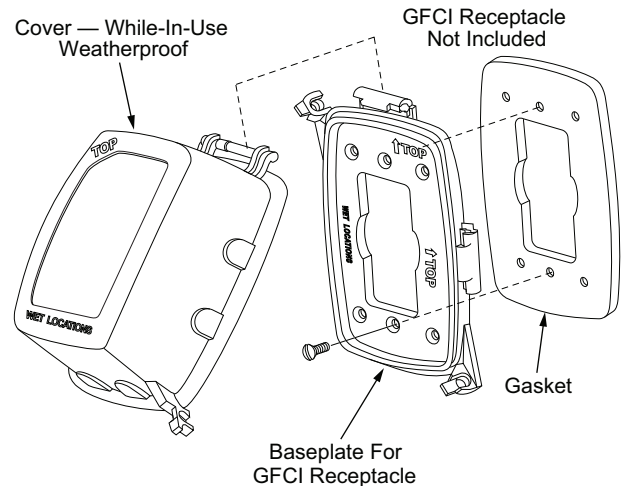

Fig. 39 — Weatherproof Cover Installation
4. Mount the weatherproof cover to the backing plate as shown in Fig. 39.